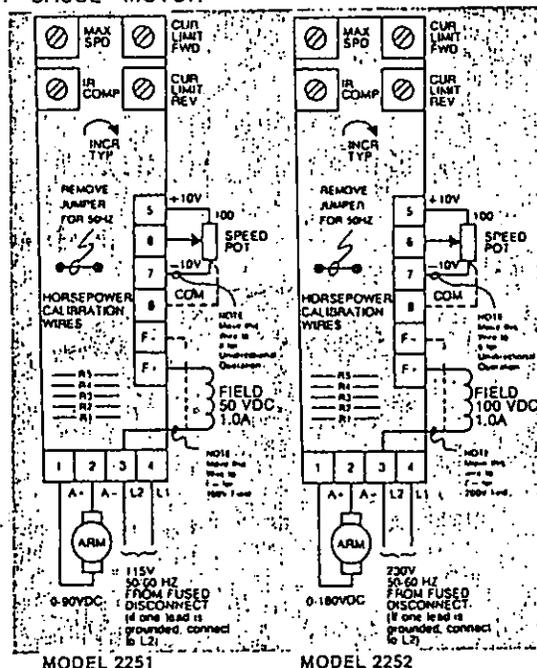

FIGURE 2. CONNECTION DIAGRAM
- Remove the applicable calibration shunt wire(s) with a wire cutter, as shown in Table 4 and Figure 2.
**CAUTION** FAILURE TO REMOVE THE CORRECT SHUNT WIRE(S) CAN CAUSE MOTOR DAMAGE.
- For 50 Hertz operation, remove the 60 Hz jumper wire from the circuit board with a wire cutter. (See Figure 2.)
- Connect the motor and single-phase power to the controller as shown in Figure 2. If unidirectional operation is desired, rewire the MOTOR SPEED pot as shown. Then, remove the pot's bidirectional dial plate, thereby revealing a unidirectional dial plate.
Too many calibration shunt wires removed	See Table 4 and Figure 2.